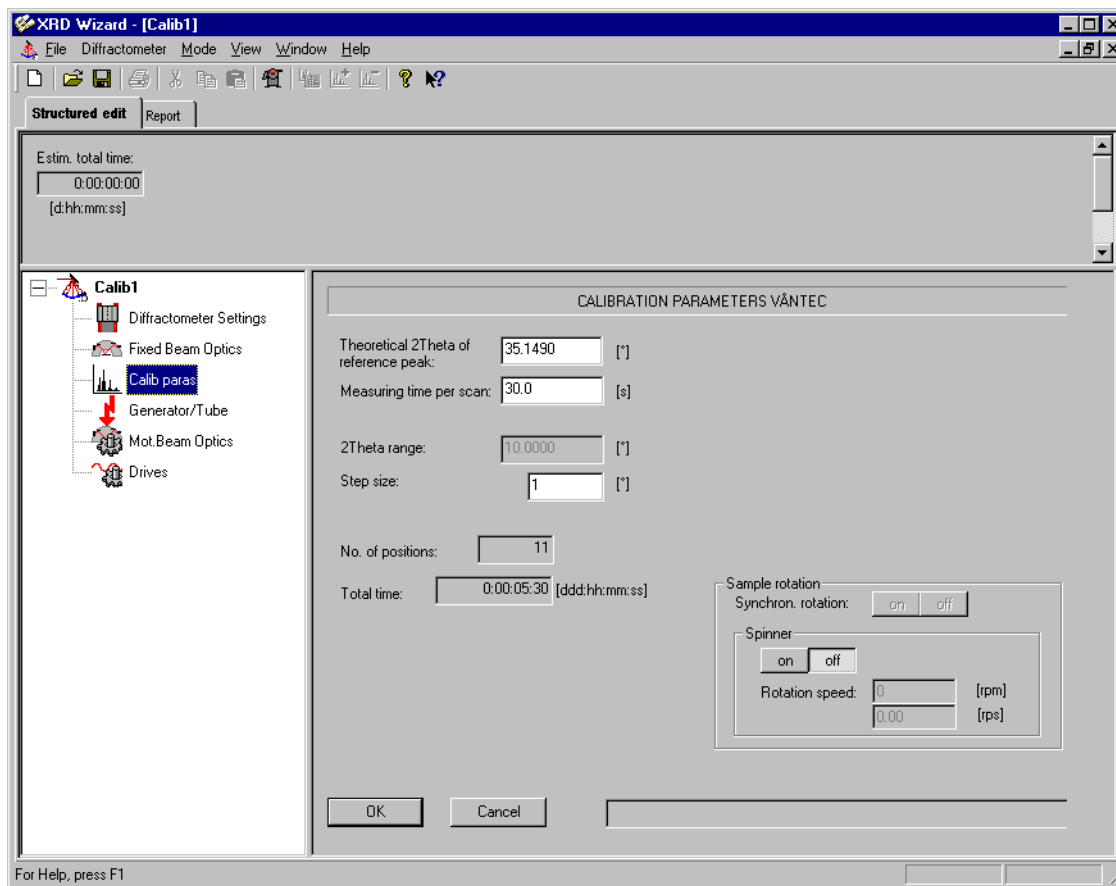

Figure 7.2 - Create the DQL file. Example shown is for Corundum sample and Cu radiation.
5. Determine the theoretical 2-theta values using Table 7.1 and Table 7.2. Input the values into the Calibration Parameters screen (see Figure 7.2).